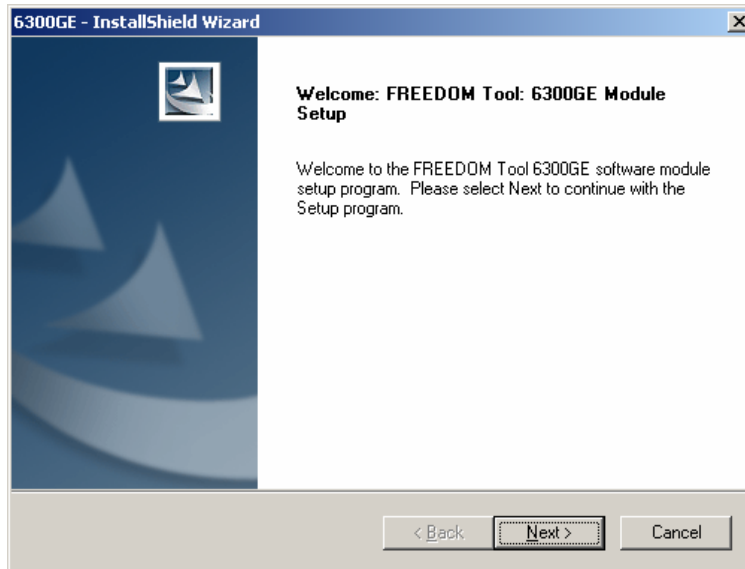

Figure 5
2. After selecting the **Install** pushbutton associated with the 6300GE section of the FREEDOMWare Installer, the Install Shield Wizard will run showing a window similar to the one shown in Figure 5. To continue with the setup of the 6300GE software module simply click the **Next** pushbutton with the PC's pointing device.